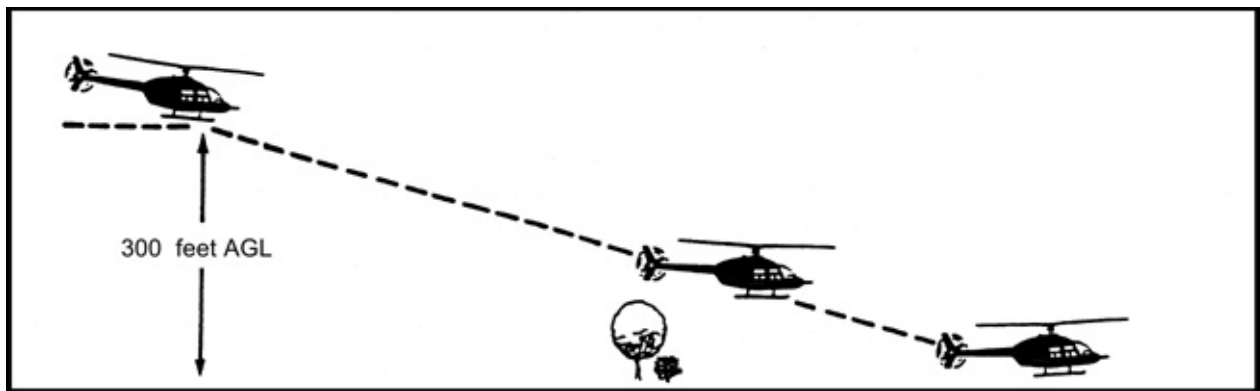

Figure 25-2: Single Angle
4. **The Approach.** Once satisfied with the suitability of the area and having flown the dummy approach to confirm, continue around for the landing approach. The approach angle should not be any steeper than is necessary. If possible, you should be able to see into the confined area, although this is not always practical. There are several types of approaches but only three basic techniques, the single angle, double angle and vertical. The steepness of the approach angle dictates which technique to use, single angle requires the least power for the approach, vertical requires the most. (Figures 25-2, 25-3, 25-4)